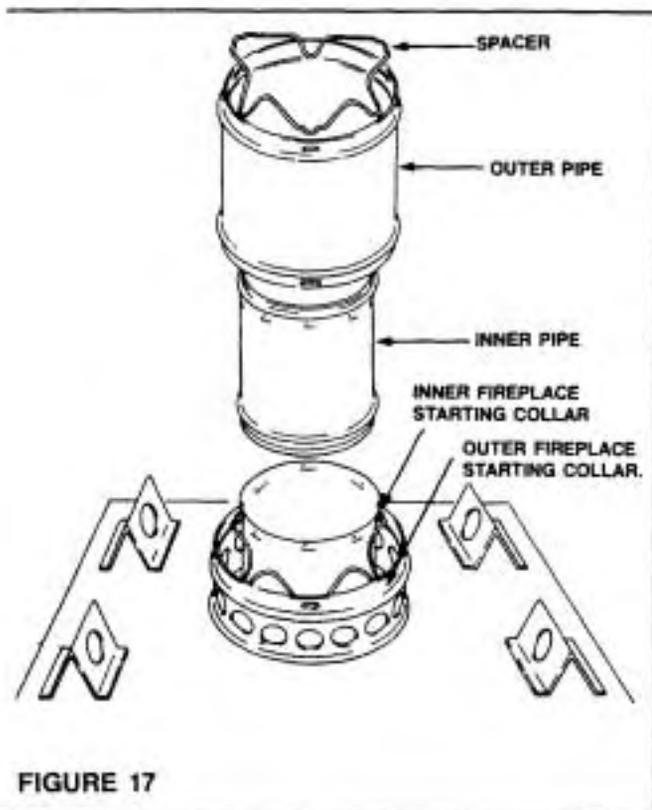

FIGURE 17
STEP 1: When Starting the chimney directly on the fireplace, install the inner pipe section by fitting the male end into the inner fireplace starting collar. Make sure the male end is fully inserted to lock into the lances (Figure 17).